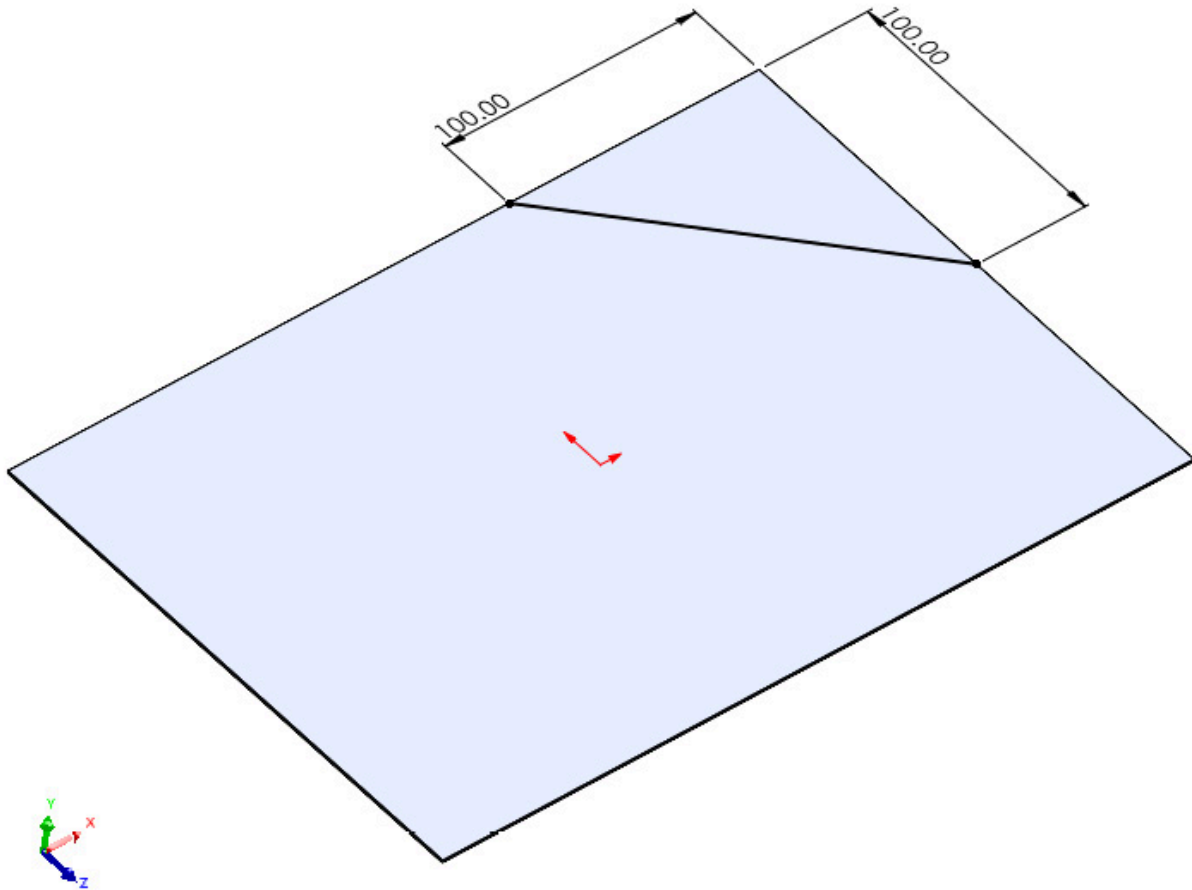

Figure 3.18: Adding a sketched line to define where the Sketched Bend will be made
3. Use the **Line** tool to sketch a diagonal line across one corner of the **Base Flange**. Make each end point of the line **100mm** from the corner of the **Base Flange**, as illustrated *Figure 3.18*. This line will determine where the bend will be made: